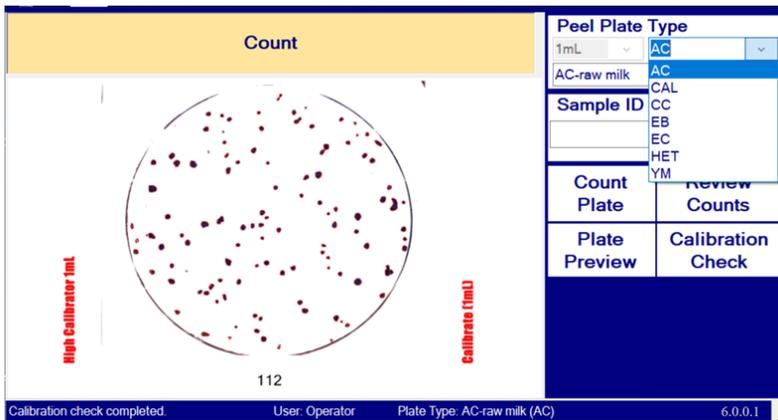

Figure 12A
2. Selecting the arrow in the top right box provides a list of available plate types. (Figure 12A)